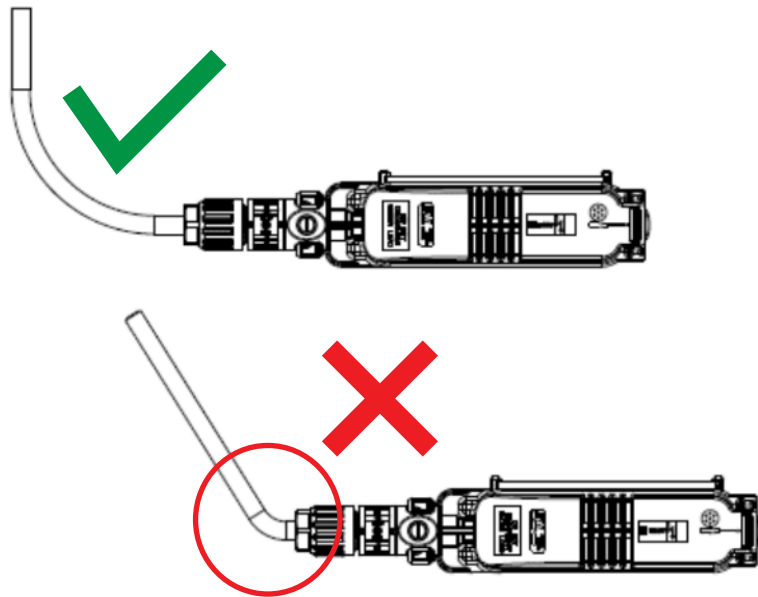

Figure 6. Jumper cables safety.
**The cables must not be bent** in the direct exit of the cable screw joint (Figure 6). A minimum bend radius of greater than five times the diameter of the largest cable must be maintained.